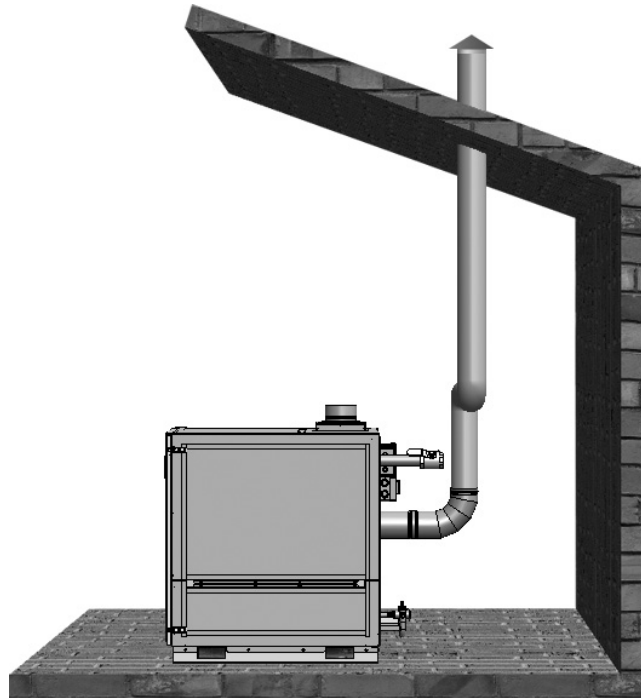
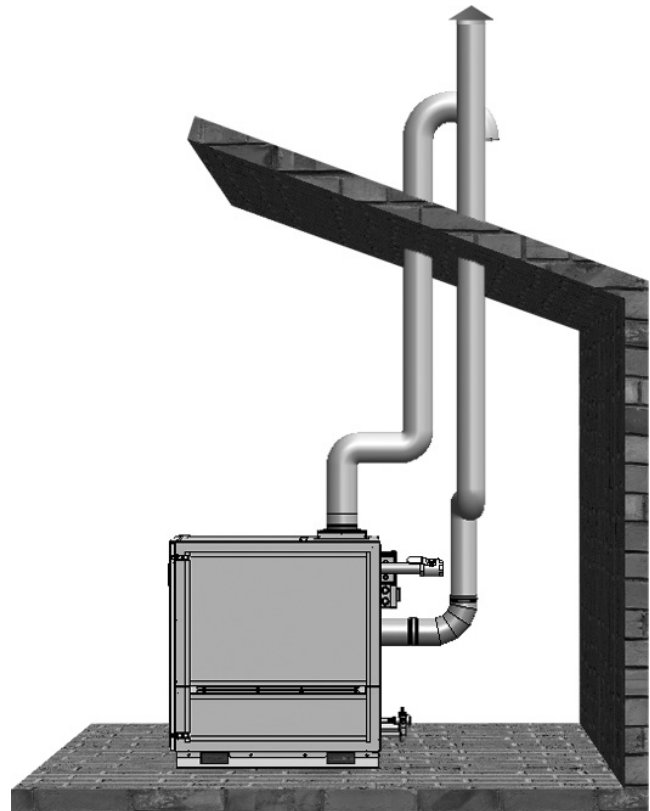
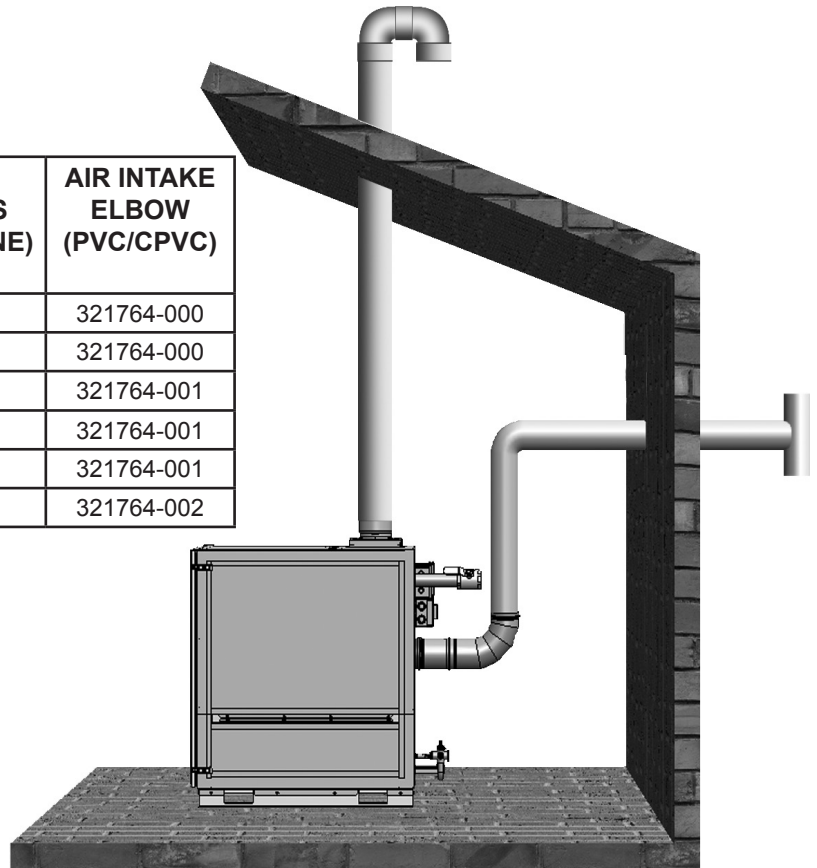

FIGURE 23. VERTICAL VENTING/ TERMINATION
FIGURE 26. DIRECT VENT VERTICAL
FIGURE 28. DIRECT VENT, HORIZONTAL VENT VERTICAL INTAKE
1. **Vertical Termination** - vertical vent termination through un-enclosed or enclosed areas with roof penetration, see Figure 23 on Page 28.
4. **Vertical Direct Vent** - using a vertical vent termination to exhaust flue products and PVC piping to bring combustion air to the water heater from outside, see Figure 26 on Page 29 and Figure 27 on Page 30.
1. The vent system must terminate at least 3 feet (0.9 m) and no more than 6 feet (1.8 m) above the roof line and no closer than 10 feet (3 m) from any wall or vertical structure. If the exhaust vent terminal is within 10 feet (3 m) of a wall or parapet, it must extend a minimum of 2 feet (0.6 m) above the wall or parapet, see Figure 23 on Page 28 and Figure 26 on Page 29.
2. For direct vent installations, the total distance of the vent system from the water heater vent connector to the vertical vent termination should not exceed 100 equivalent feet (30.5 m). Minimum vertical vent is 10 equivalent feet (3 m) for direct vent installations. Standard minimum vertical vent length is 10 feet (3 m). See Figure 23, Figure 26 thru Figure 28 for differences between standard and direct vent installations.